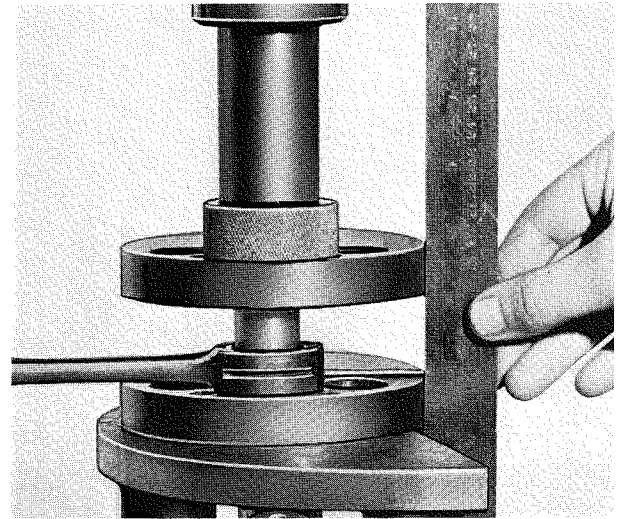

Fig. 7
6. Adjust the other crank disc by means of a rule. See fig 7.